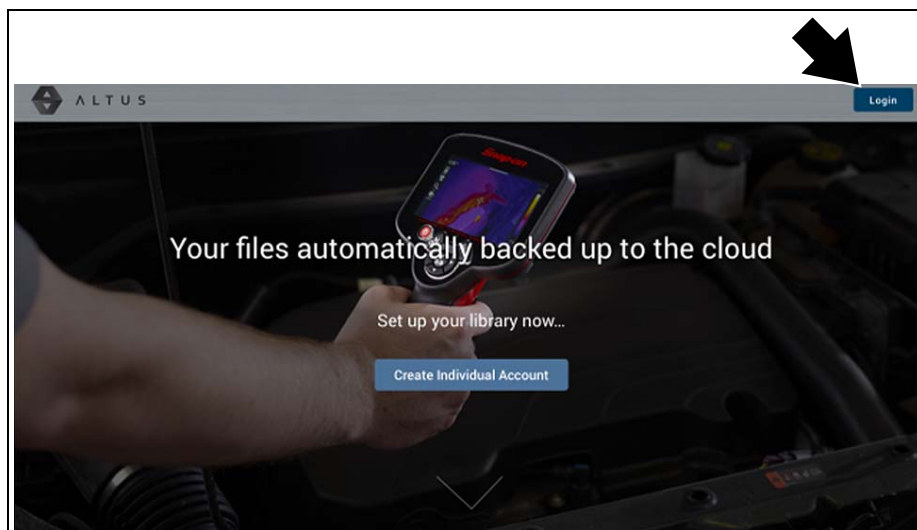

Figure 10-3
2. Select the **Login** icon (Figure 10-3).